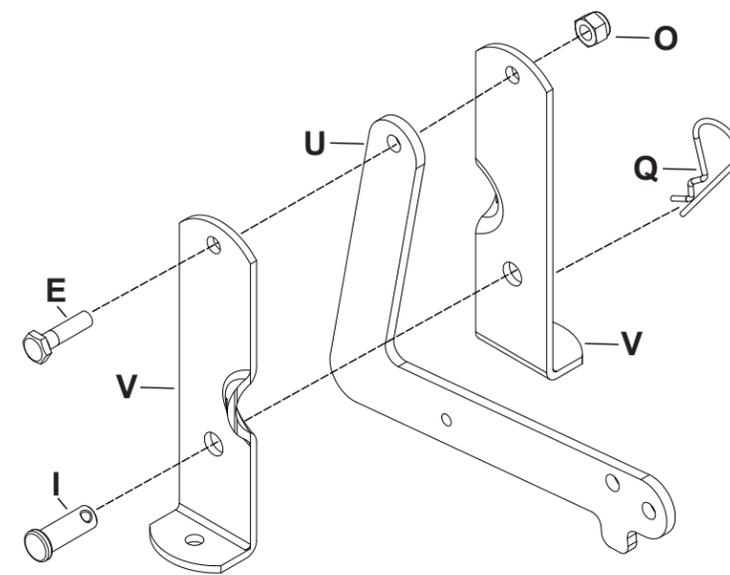

Figure 1
- (1) Pliers
STEP 1 (SEE FIGURE 1): Install a 1/4-20 x 1" bolt (E) through the latch mount bracket, lock bracket (U), and the other latch mount bracket (V).
STEP 2 (SEE FIGURE 1): Secure bolt (E) with a 1/4-20 nylock nut (O). Tighten so that the lock bracket (U) can still pivot.
STEP 3 (SEE FIGURE 1): Install a 3/4" clevis pin (I) through the latch mount bracket (V) and the other latch mount bracket (V). Secure 3/4" clevis pin (I) with a hair cotter pin (Q).